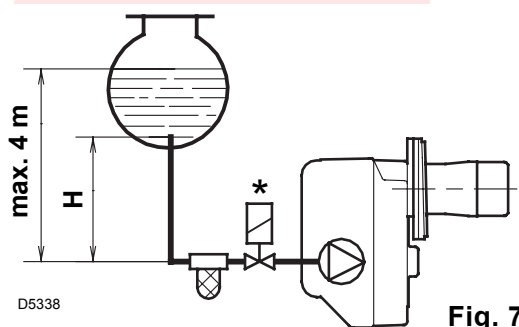
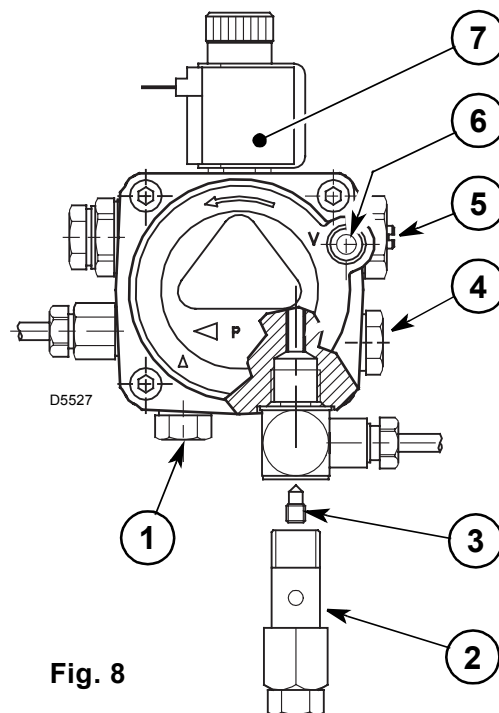

Fig. 7
Fig. 8
- The pump is designed to allow working with two pipes. In order to obtain one pipe working it is necessary to unscrew the return plug (2), remove the by-pass screw (3) and then screw again the pin (2), (see fig. 8).
On the system in fig. 7 it is sufficient to loosen the suction gauge connection (6, fig. 8) and wait until oil flows out.